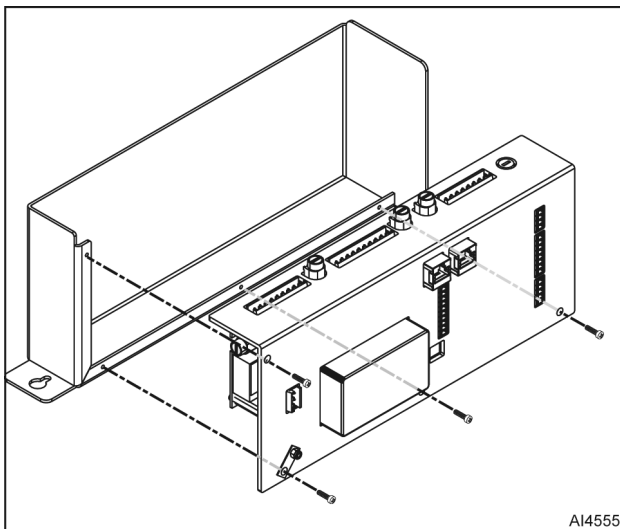

Fig. 9
3. Remove screws and control output assembly back cover (Fig. 9).